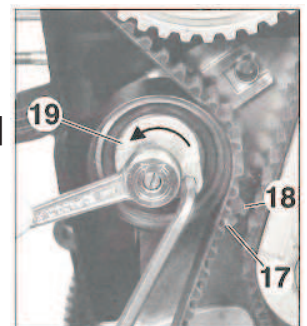

FIG. 3
- 2 Turn the tensioner counterclockwise until the mobile indicator (17) [FIG. 3] is aligned with the mark (18 - fully tensed position) [FIG. 3] and then, tighten the tensioner bolt.